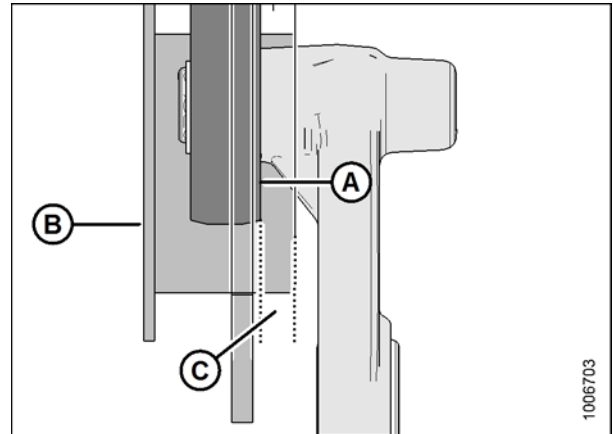

Figure 5: Bearing Gap
- a. Using the same reel arm and inspection locations as in STEP 1. Rotate the reel and measure gap (C) between the inside edge of the cam arm roller bearing (A) and the outer edge of cam ring (B) at each inspection point. (Figure 5)